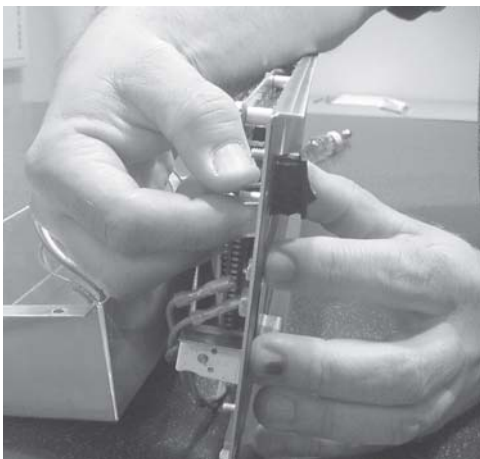

Figure 3-12
5. Pinch the tabs on the rear of the switch and pull the switch through the front of the panel. Figure 3-12.